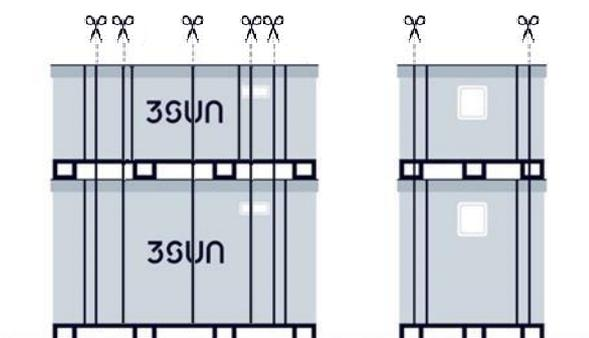

Figure 14: Position of outer straps.
3. Cut the seven outer straps that tie together the top and bottom boxes, indicated in Figure 14 below.